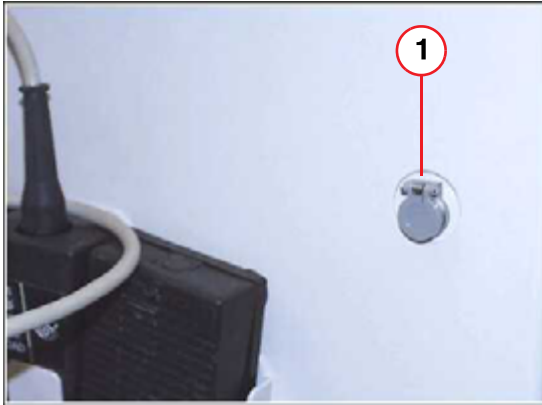

Fig. 1: *Modularis Vario connection*
- Push the connector panel from the inside onto the threaded bolts (1/Fig. 1 / p. 5) and use 3 mm locking washers and nuts to secure it.